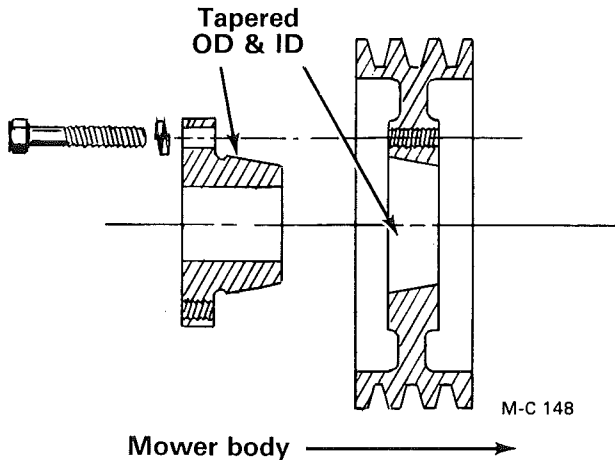

Figure 38
5. Place the bushing into the pulley from the front so that the bushing flange is to the outside, see Figure 38. The bushing and the bore of the pulley are tapered. Be sure to install the bushing into the large ID of the pulley tapered bore. If the bushing is installed into the small ID of the pulley, the pulley hub will crack when the mounting capscrews are tightened.